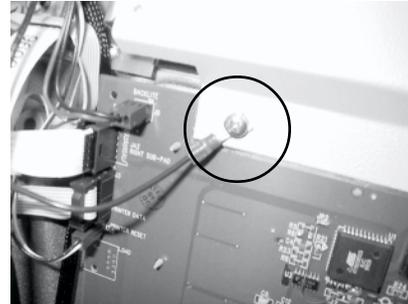

Figure 6. Connect Grounding Strap to Display mounting screw.
6. Connect the **fifth ring terminal** to the Display mounting screw, as shown in Figure 6.